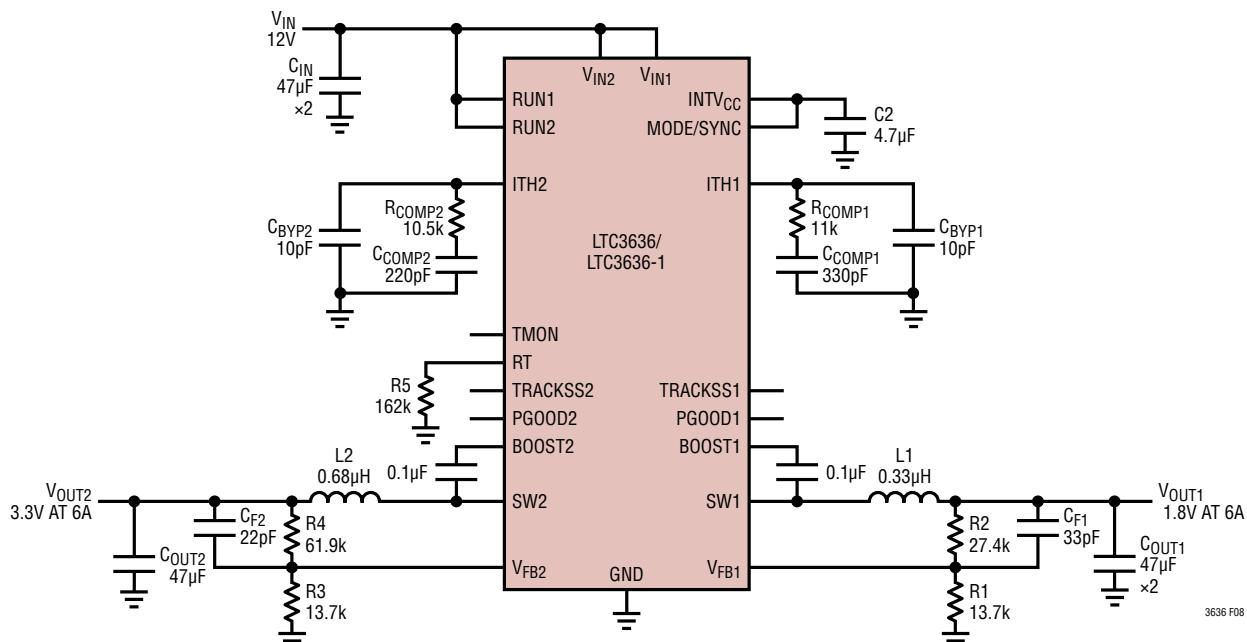

Figure 8. Design Example Circuit
- 3) The resistive divider, (e.g. R1 to R4 in Figure 8) must be connected between the (+) plate of C_{OUT} and a ground line terminated near GND. The feedback signal V_{FB} should be routed away from noisy components and traces, such as the SW line, and its trace length should be minimized. Keep R1 and R2 close to the IC.
The final circuit is shown in Figure 8.